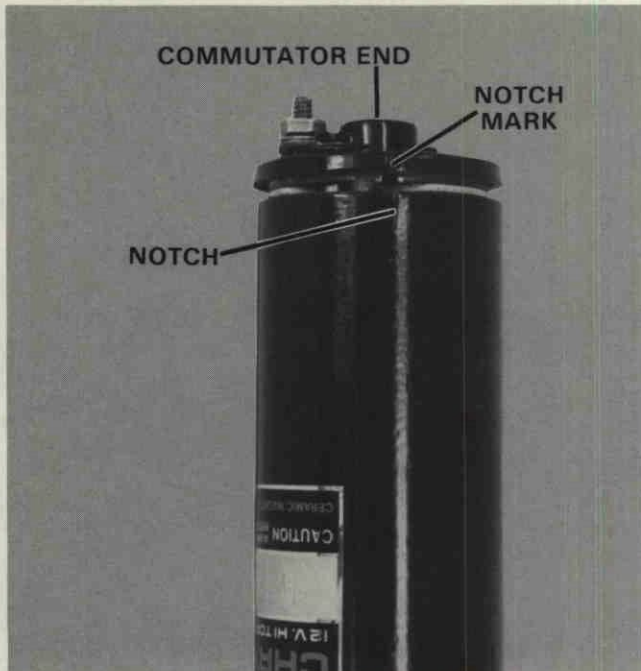

Figure 58. Installing Commutator End Cap to Motor Body.
- 5. Insert armature shaft (commutator end) into end cap bearing. Figure 58.